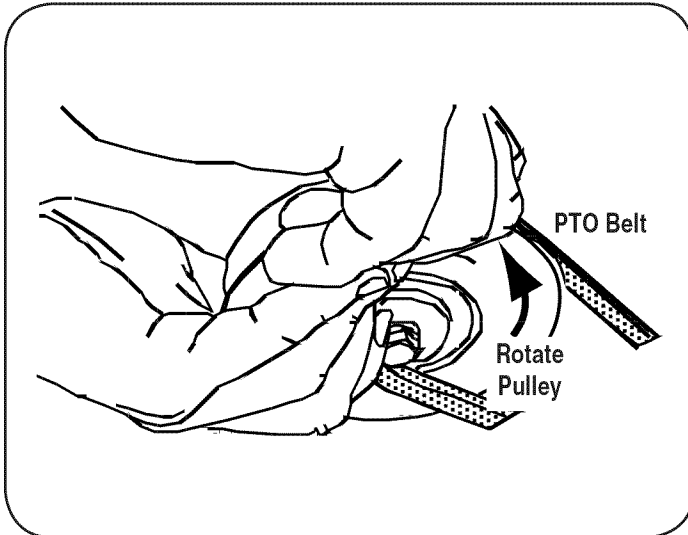

Figure 16
- Pull the right side of the belt and place the narrow V side of the belt into the PTO pulley. See Figure 16.